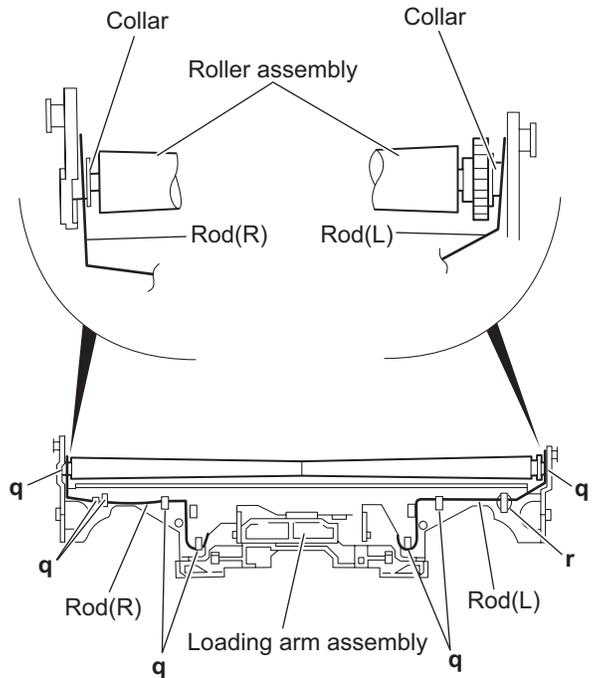

Fig.15
### 3.4.8 Removing the rod (L)(R)/roller assembly (See Figs.15 and 16)
- Release the rod (L) and (R) from the joints **q** at the bottom of the loading arm assembly. (See Fig.15.)
After attaching the loading arm assembly to the roller assembly, attach the rod (L) and (R). Attach the rods to the right and left collars of the roller assembly. (See Figs.15.)
When reattaching the rod (L) and (R) to the loading arm assembly, engage each joints **q** as shown in Fig.15. As joints **r** of the rod (L), let the rod through **r** before reattaching it.